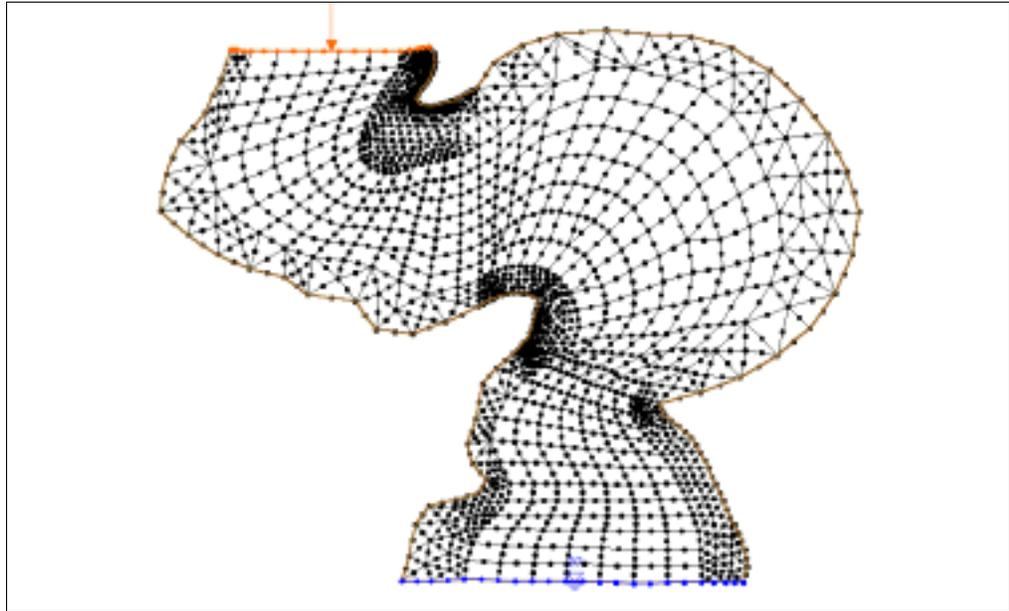

Figure 5-1. The mesh contained in *stmaryout.fil*.
4. Open the file *stmaryout.fil*, either the one saved from lesson 2 or the one supplied in the *tutorial/output* directory. The display will refresh with the mesh as shown in Figure 5-1.